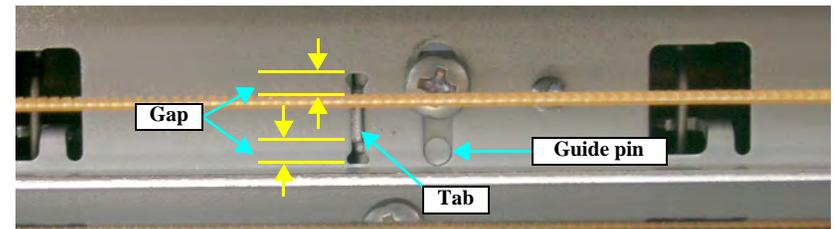

Figure 5-29. Checking the Position of Tab on the Guide Roller LD
- Align the guide pin and tab on the 0 Digit Side Guide Roller LD with the positioning holes on the Main Frame, and tighten the Guide Roller LD (0 Digit Side) with the screws. (See Fig.5-29.)